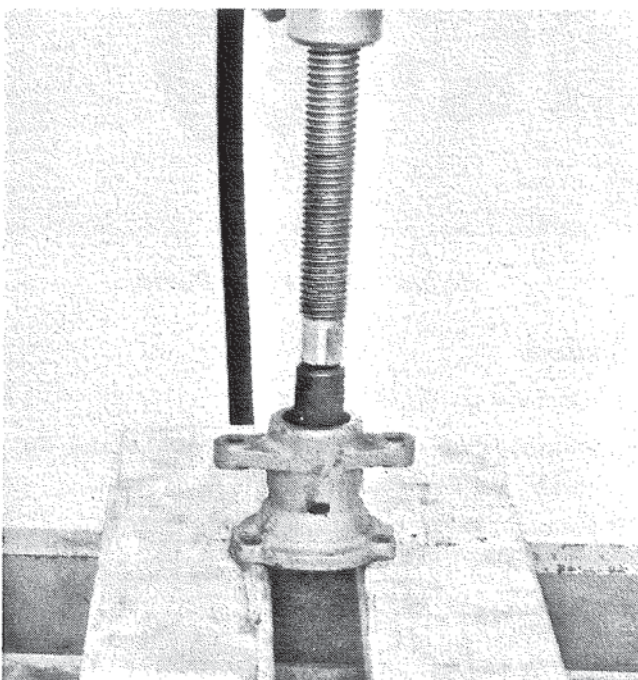

Figure 7. Removing Mechanical Seal.
G. Remove large internal retaining ring from bore of body, then press mechanical seal from body. Figure 7.